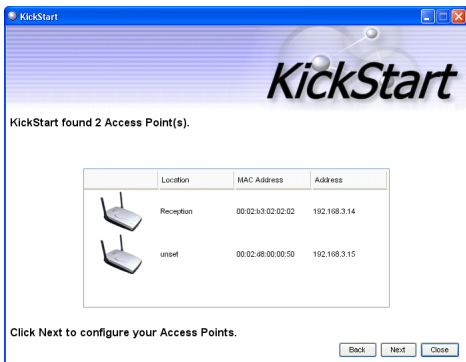

Figure 13. KickStart Search Results Dialog Box
Wait for the search to complete, or until KickStart has found your new access points, as shown in Figure 13..
5. Review the list of access points that KickStart found, as shown in the example in Figure 13.